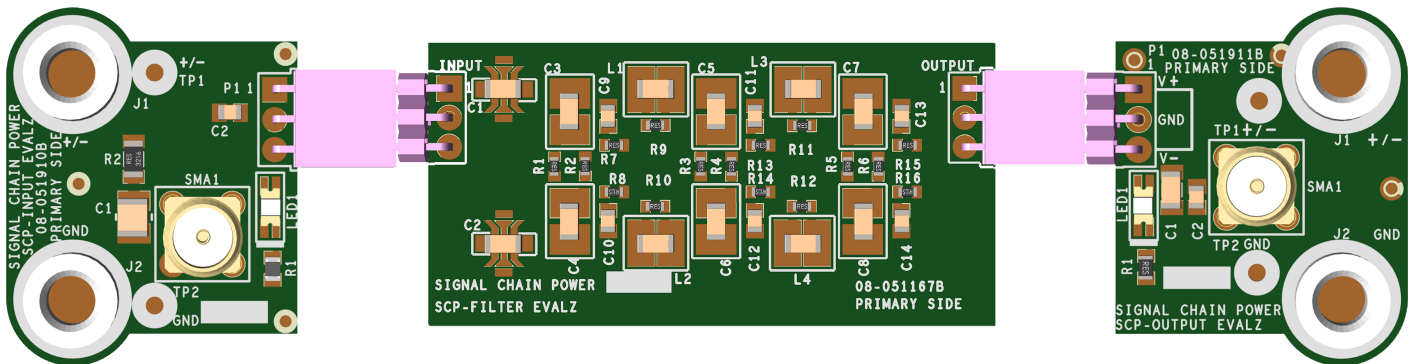

Figure 2. Proper Measurement Equipment Setup (Use SMA connectors for Measuring Input or Output Ripple)
2. Connect the SCP-INPUT-EVALZ and SCP-OUTPUT-EVALZ boards to the SCP board under evaluation (refer to Figure 2) and connect the input board to a voltage source, V_{SOURCE} . Connect the output board to a voltmeter or dynamic load. Slowly raise the input voltage until the SCP-FILTER-EVALZ powers up the device under test into regulation and sweep V_{SOURCE} through the desired range of operation.